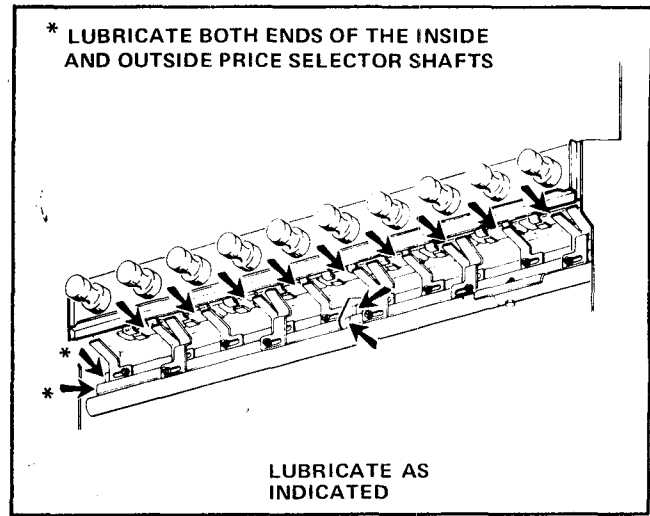

FIGURE 8-1
1. a. Lubricate the Selector Bars on the Draw Mechanism with Lubriplate. See Figure 8-1.
- b. Lubricate both ends of the Inside and Outside Price Selector Shafts with Lubriplate. See Figure 8-1.
- c. Lubricate the groove in the center of the Inside and Outside Price Selector Shafts where it comes in contact with the Price Selector Support Angle. Use Lubriplate. See Figure 8-1.